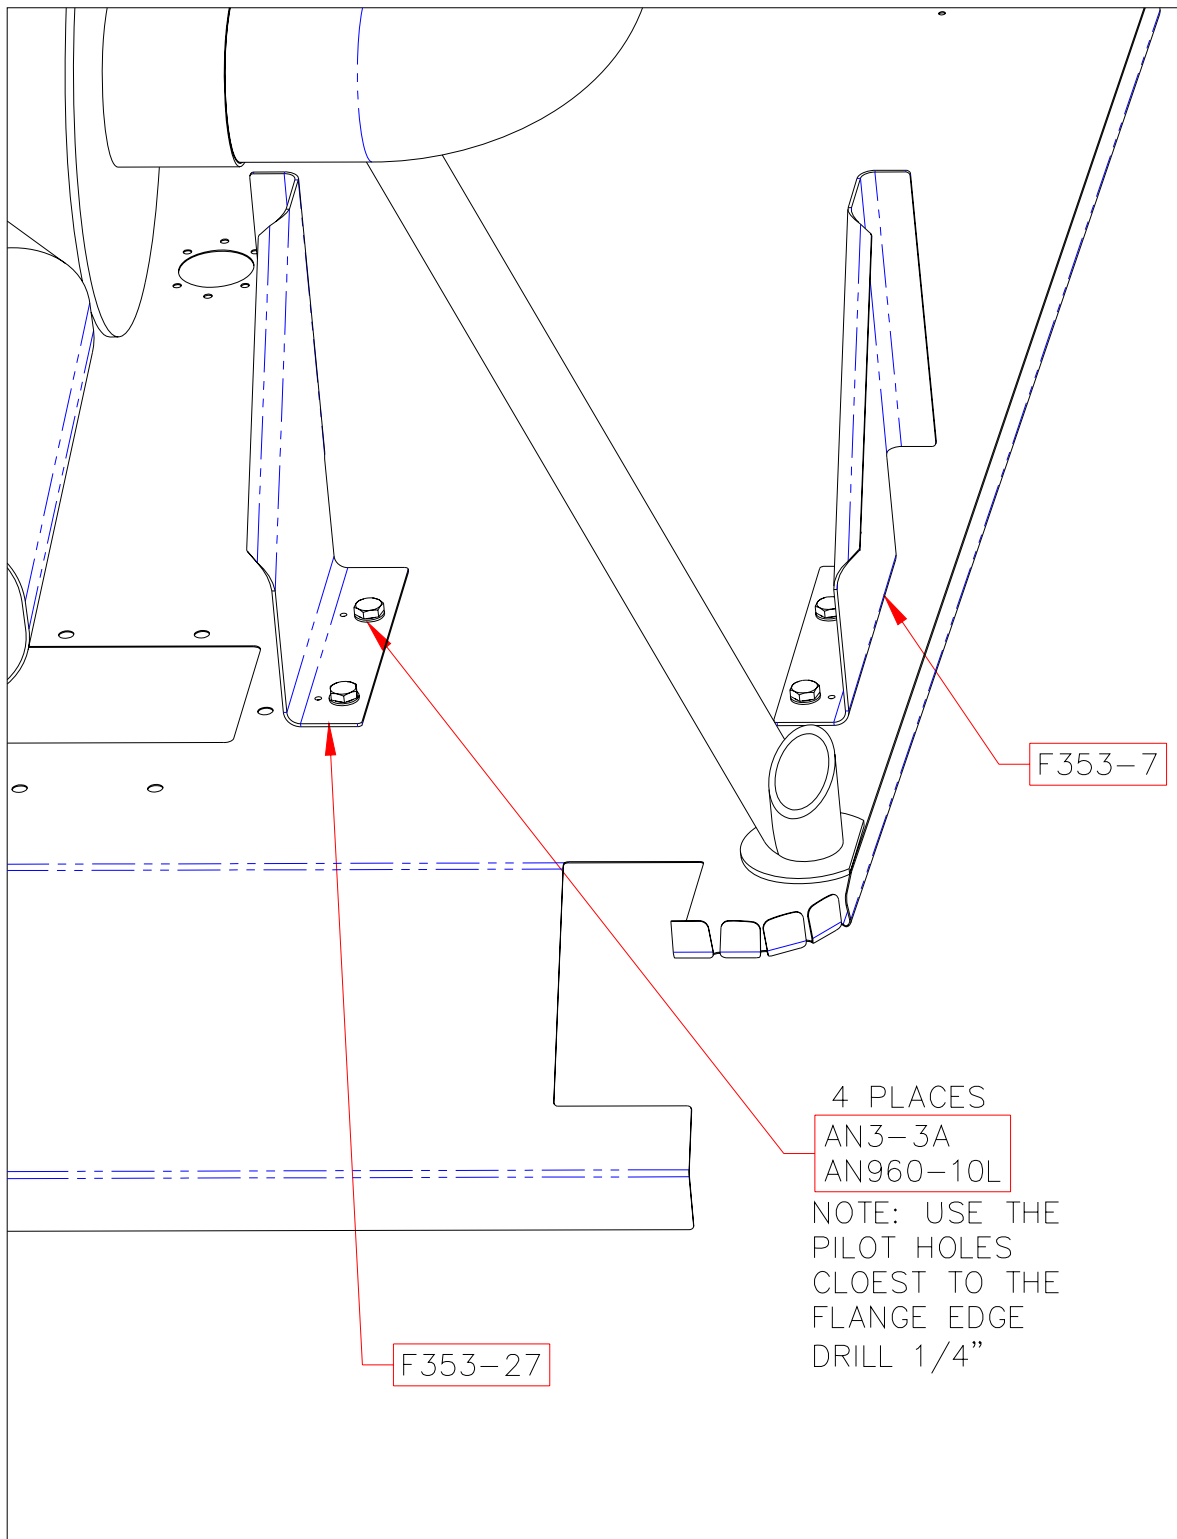

FIGURE 6 F353-7 & 27 MOUNTING
8. Install new F353-7 and F353-27 as supplied in kit per Figure 6